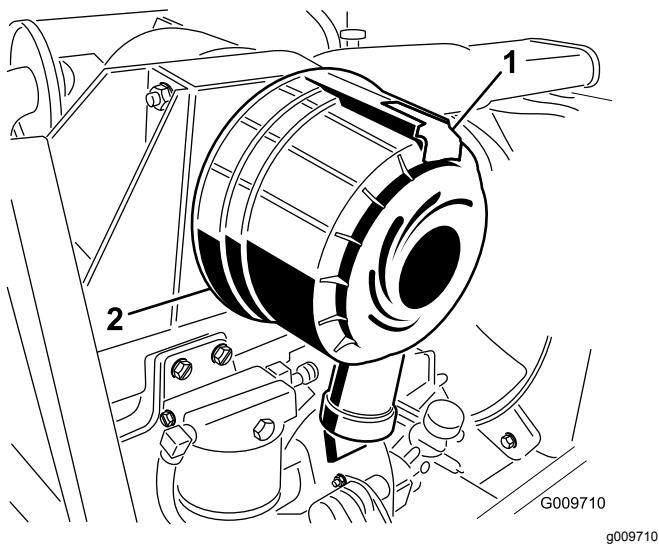

Figure 26
1. Pull the latch outward and rotate the air cleaner cover counterclockwise (Figure 26).